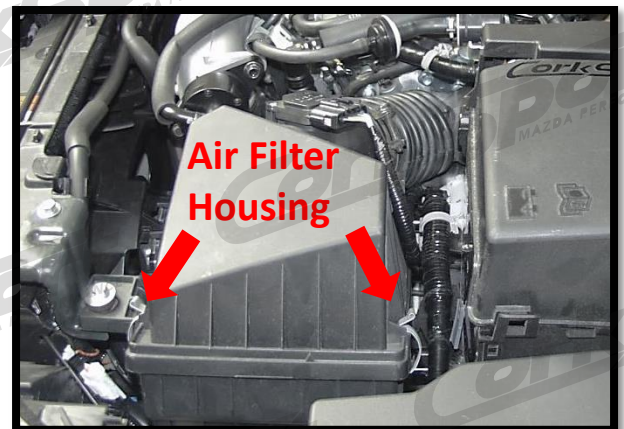

Figure 1c
- d) Remove the top portion of the air filter housing box by prying the two (2) metal clasps outward (red arrows in Figure 1c) and pulling the top toward the fender and upward simultaneously.